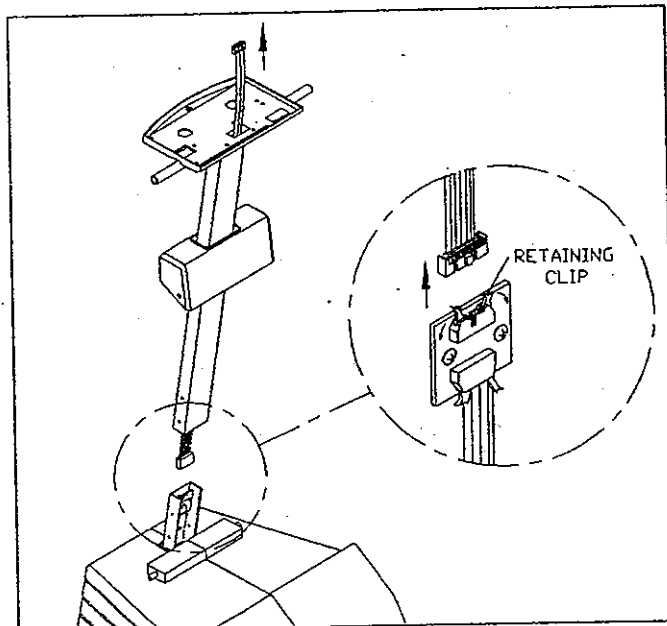

Fig. 6
6. Release the 16 pin cable from its socket in the terminal, first pulling back the retaining clips. Then, remove the cable (see Fig. 6).